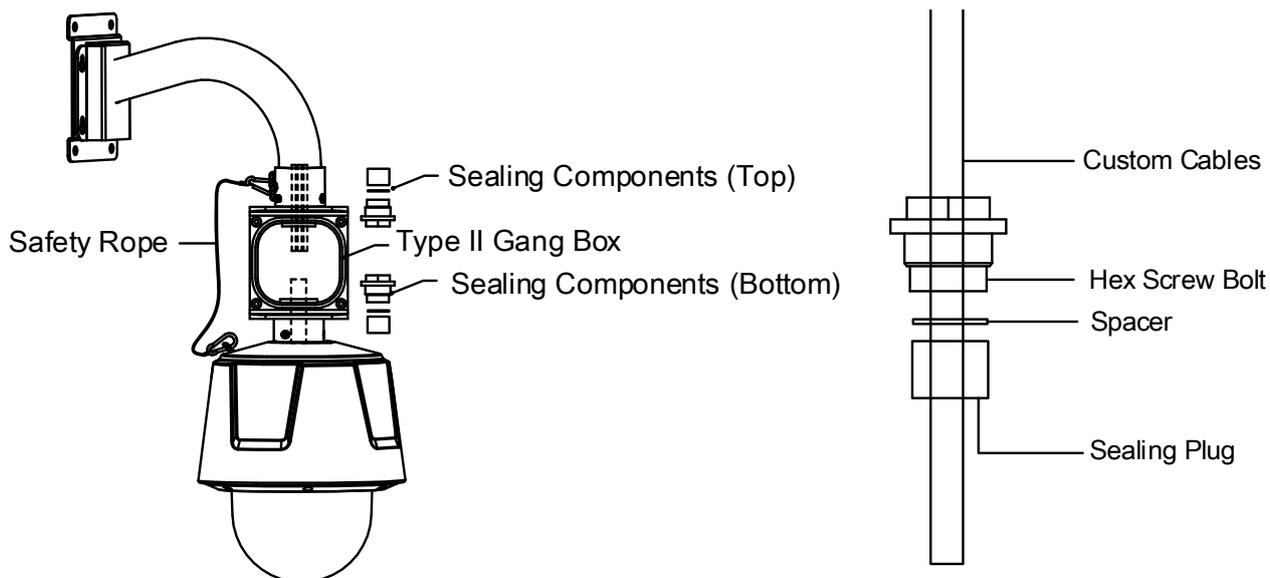

Figure 3-69 Assemble the Type II Gang Box with the Speed Dome
- 3) Insert the sealing components into the gang box in order, as shown in Figure 3-69.